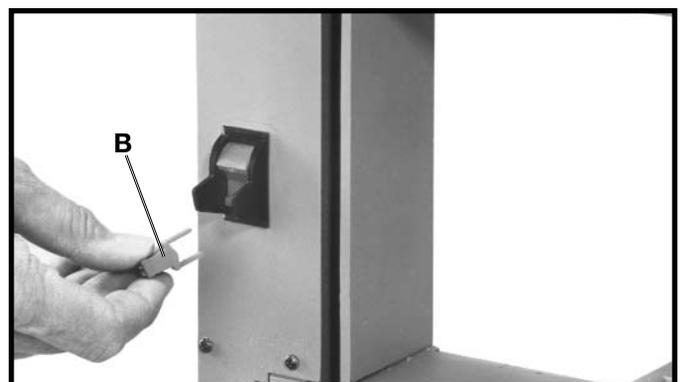

Fig. 14
IMPORTANT: When the tool is not in use, the switch should be locked in the “OFF” position to prevent unauthorized use. This can be done by grasping the switch toggle (B) Fig. 14, and pulling it out of the switch, as shown. With the switch toggle (B) removed, the switch will not operate. However, should the switch toggle be removed while the machine is running, the switch can be turned “OFF” once, but cannot be restarted without inserting the switch toggle (B).